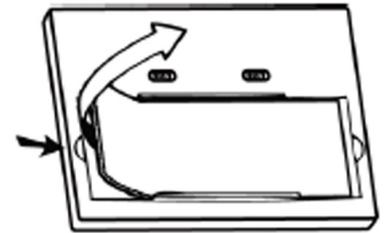

Fig.6
- a. Replacement of inner cover lens: To remove the inner cover lens, pulling out the top edge (Fig. 6).